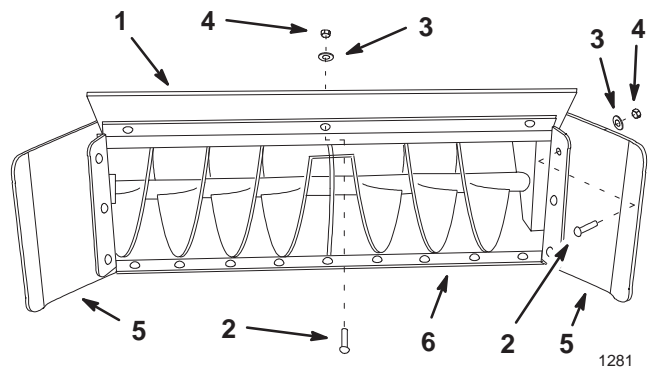

Figure 5
1. Position the top plate on top of the top housing flange and secure it with 3 carriage bolts (3/8 x 1 inch) (heads on the inside), 3 washers (3/8 inch), and 3 locknuts (3/8 inch) (Fig. 5).
2. Position the side plates on the outside of the housing side flanges and secure them with 6 carriage bolts (3/8 x 1 inch) (heads on the inside), 6 washers (3/8 inch), and 6 locknuts (3/8 inch) (Fig. 5).